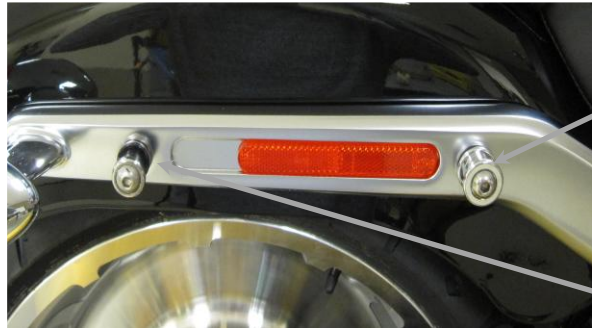

FIGURE 3
2. Install the front mounting bushing into the front hole using the supplied 3/8"-16 x 1-3/4" long buttonhead bolt and tighten bolt securely. See **FIGURE 3**.
5. Install the rear bushing assembly as oriented in **FIGURE 3**, using the supplied 3/8"-16 x 1-3/4" long button head bolt and tighten bolt securely.